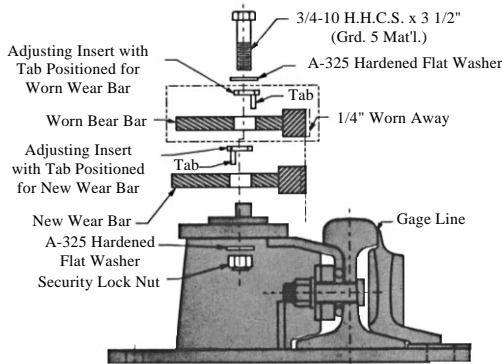
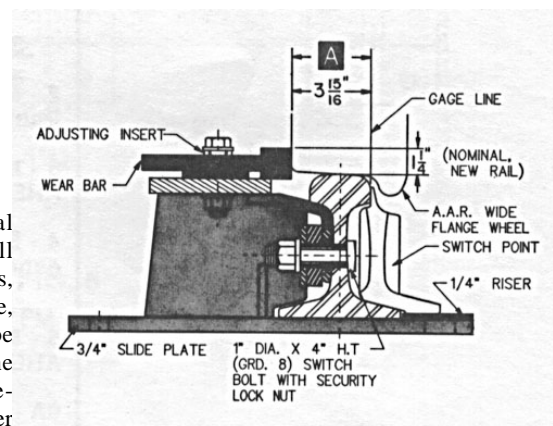

Fig. 2
Fig. 10
When the Wear Bar is worn to the point where wheels are again abrading the switch point tip, our unique adjusting insert feature (FIG. 2) permits the Wear Bar to be moved toward the rail far enough to allow service life to be increased by an additional 40 percent. This feature is not available on any other switch point guard.
prevent the switch point guard from being forced away from its protective position by wheel action (see FIG. 10). Wear Bar and stock rail work as one.
Specify: "Wear Bar for Model FM Switch Point Guard" (shipped with six new mounting bolts, Security locknuts, 12 ea., A325 washers and 3 ea. adjusting inserts). Refer to Fig. 2 for installation. Shipping Weight: 90 pounds.
9. Lower the rail, insuring that stock rail base rests ("beds") in seats on Model FM Slide Plates. No portion of stock rail base should be on top of Model FM Riser (See Fig. 10).
10. Install the two 1" dia. thin-head track bolts – head toward gage (Refer to Fig. 10) and tighten.
11. Tighten all Wear Bar retaining bolts. (See Fig. 2 for proper assembly).
Occasional inspection for wear and bolt tightness are the only regular maintenance requirements. When Dimension "A" shown in Fig. 10 measures 4-3/16" to 4-5/16", the Adjusting Inserts should be unbolted and turned (see Fig. 2). Doing so will provide an additional 1/4" wear capacity. Do not turn Adjusting inserts until Dimension "A" measures at least 4-3/16", or the Wear Bar may cause train wheels to bind against the opposite rail from point.